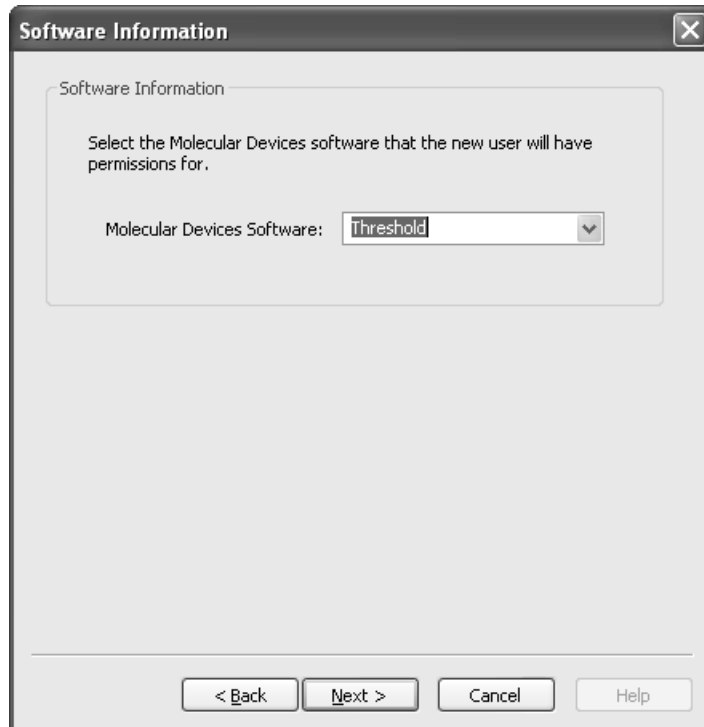

Figure 8-5: The Software Information Dialog
- 5) Click **Next**. This opens the **Software Information** dialog (Figure 8-5).